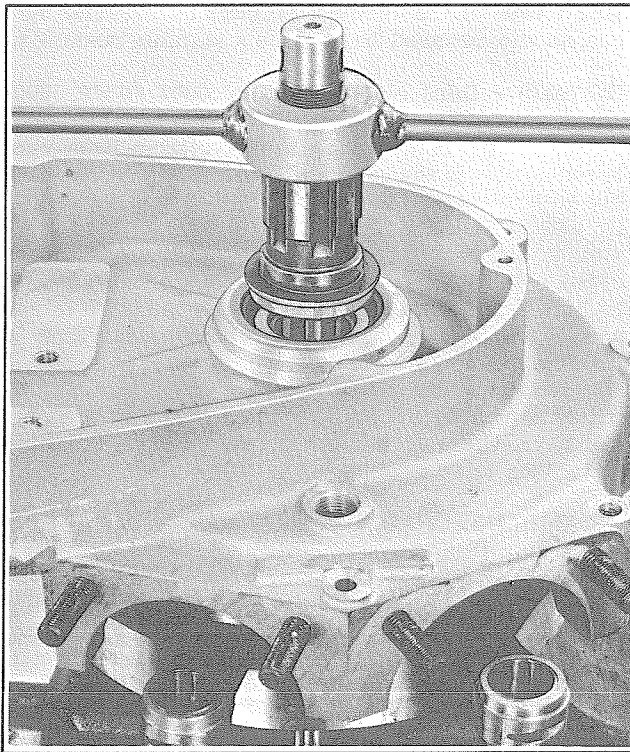

Figure 3E-34. Installing Sprocket Shaft Extension
9. See Fig. 3E-19. Align case halves and assemble